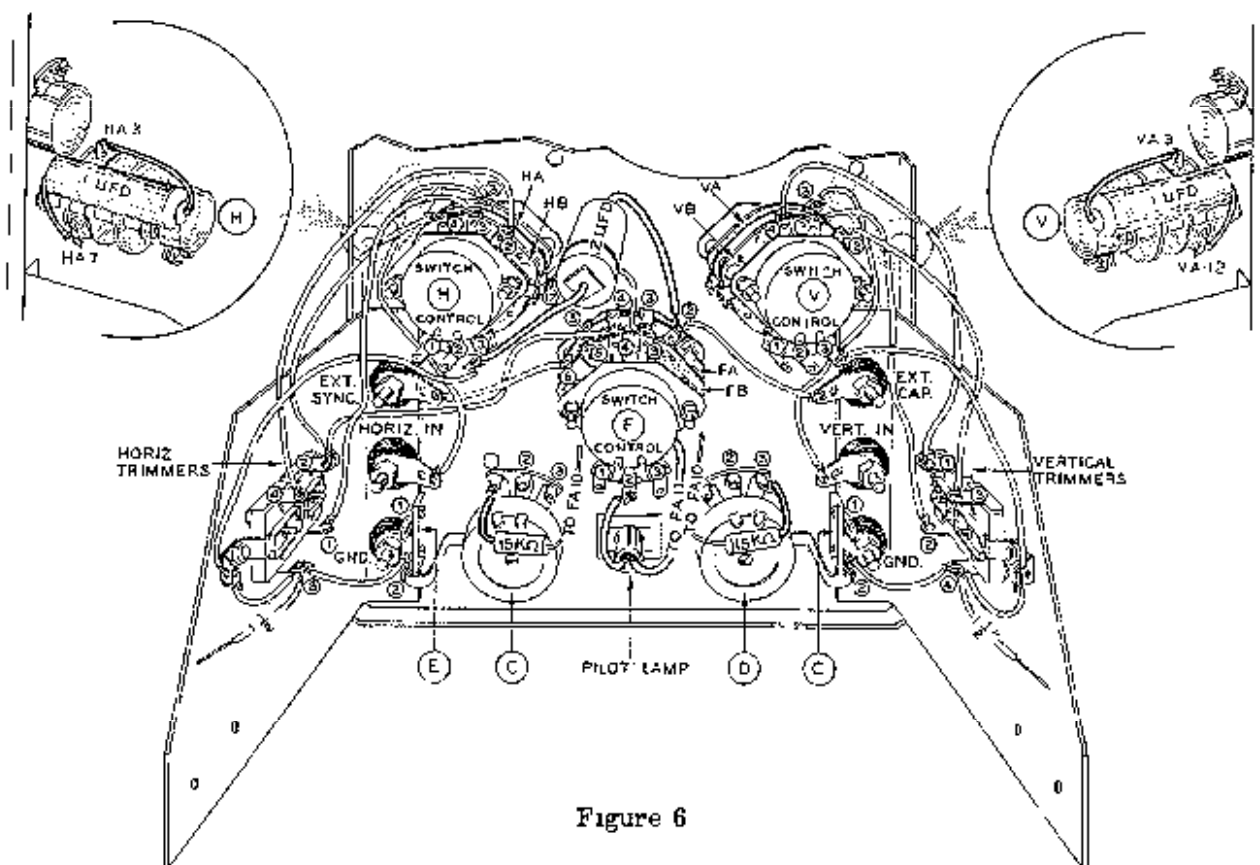

Figure 6
Refer to Figure 6 for the following steps.
- (✓) Mount FREQUENCY switch F (#63-200) on the front panel using a control lockwasher, control flat washer and a control nut. Orient the switch as shown in Figure 6.
- (✓) Cut off the excess length from the free lead of the 15 KΩ resistor coming from lug 3 of control D. Now connect this lead to switch lug FA10 (NS).
- (✓) Cut the other pilot lamp lead to 1-3/4" and place 1-1/2" of sleeving over it. Now connect this lead to lug 2 of control F (NS).
- (✓) C-13. Connect a .1 μfd 600 V capacitor from switch lug HA3 (NS) to HA7 (S-1). Orient as shown and use sleeving on each lead.